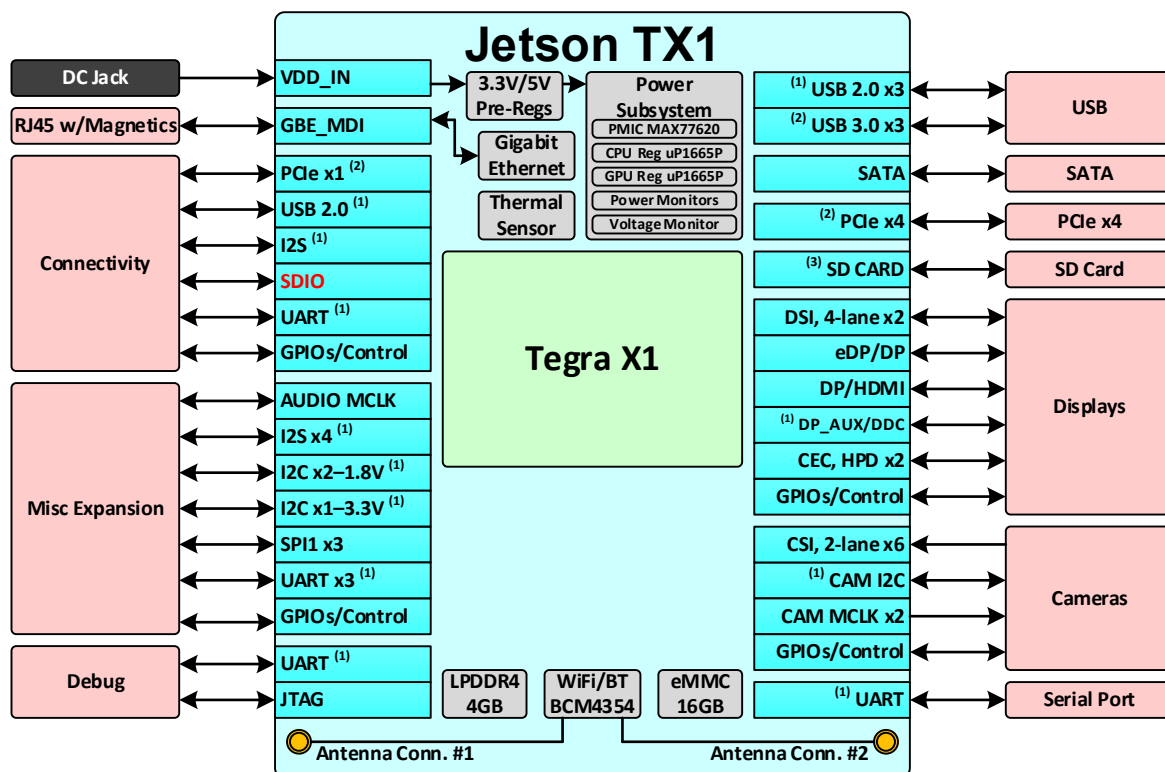

Figure 1. Jetson TX1 Block Diagram
2. USB 3.0, PCIe, and SATA share lanes. Not all instances shown in Figure 1 can be brought out together. See the USB 3.0, PCIe, and SATA lane mapping configuration tables in the “USB 3.0, PCIe, and SATA Mapping” section.